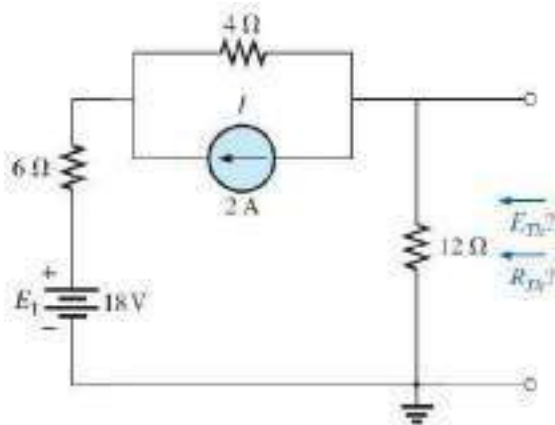

FIG. 9.55
a. *Steps 1 and 2:* See Fig. 9.55.